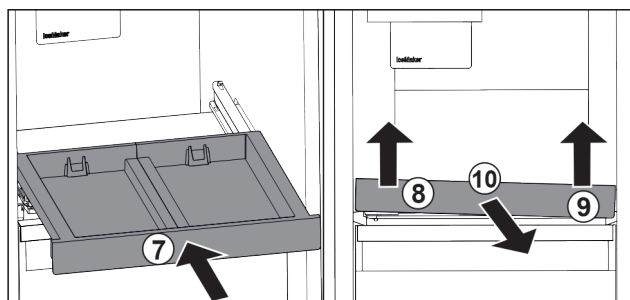

Fig. 91
- Slide in the pull-out board. Fig. 91 (7)
- Lift the pull-out board on the front left. Fig. 91 (8)
- Lift the pull-out board on the front right. Fig. 91 (9)
- Take out the pull-out board to the front. Fig. 91 (10)